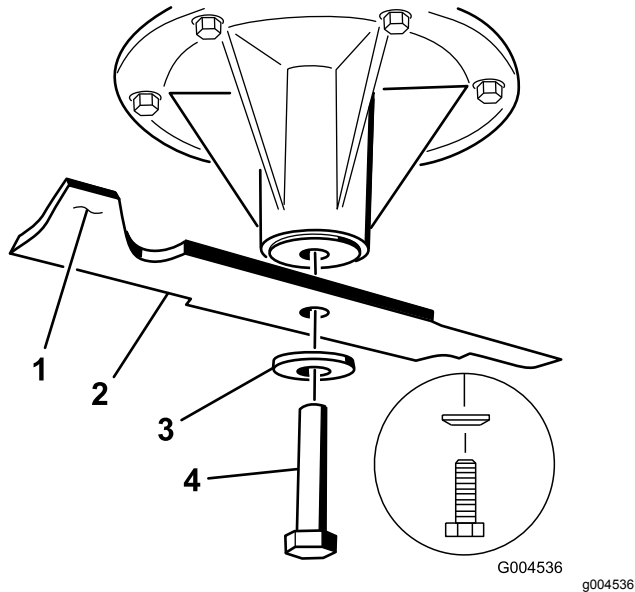

Figure 106
1. Install the blade onto the spindle shaft (Figure 106).
2. Install the spring disk and blade bolt (Figure 106).
Note: The spring-disk cone must be installed toward the bolt head (Figure 106).